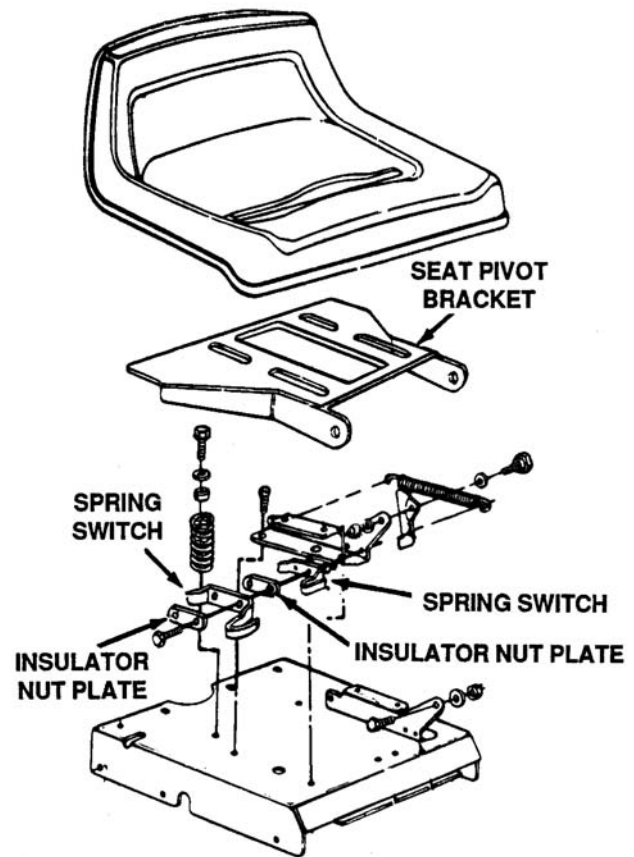

Figure 3-1. Operator Present Safety Seat
- 3-1.4 All lawn and garden tractors produced after July, 1987 were requested by ANSI (American National Standards Institute) to have an operator present as an added safety feature. If the operator leaves the seat with the blades or PTO engaged, the engine will shut off. This seat switch is a safety device, designed for your protection. See Figure 3-1.